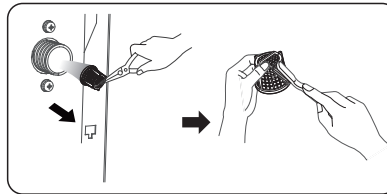

Fig. 20
- Clean the filter using a hard bristle brush under the running water (Fig. 20).